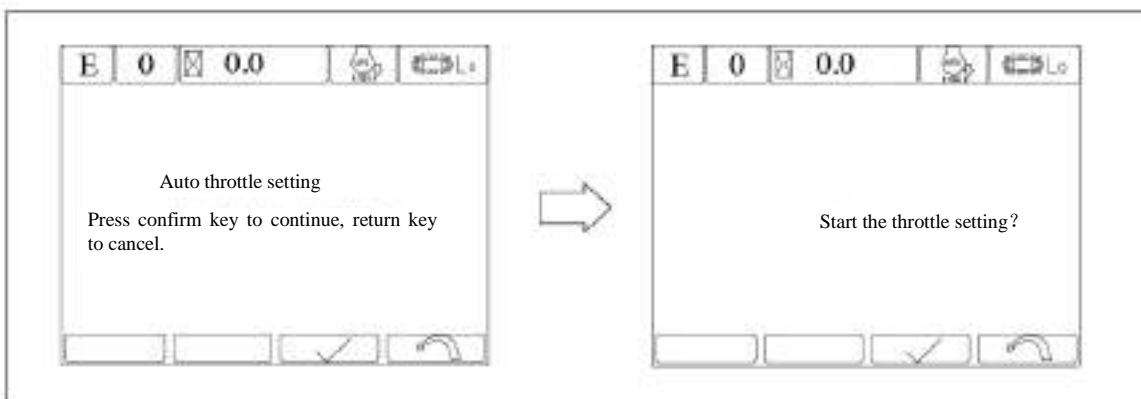

Figure 3-22 Confirm whether to enter throttle setting interface
- a) Press F3 to enter throttle setting interface shown in Fig 3-22.